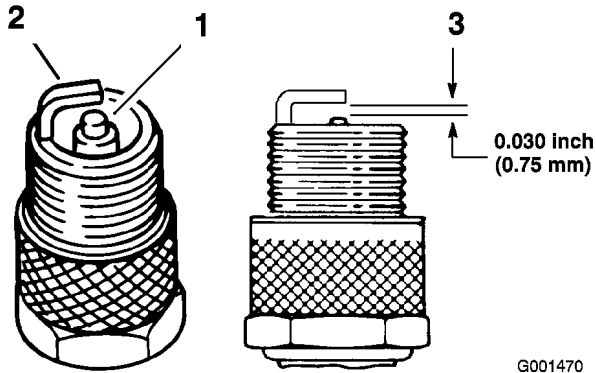

Figure 40
1. Look at the center of the spark plugs (Figure 40). If you see light brown or gray on the insulator, the engine is operating properly. A black coating on the insulator usually means that the air cleaner is dirty.
2. Check the gap between the center and side electrodes (Figure 40). Bend the side electrode (Figure 40) if the gap is not correct.
3. Connect the wires to the spark plugs (Figure 40).